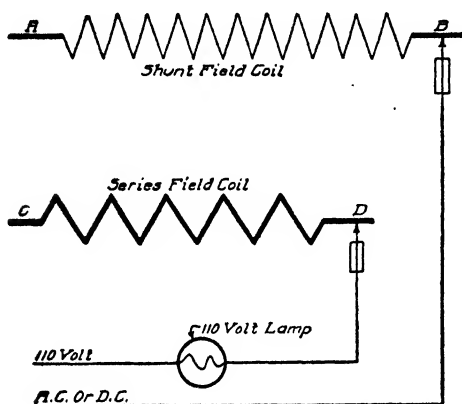
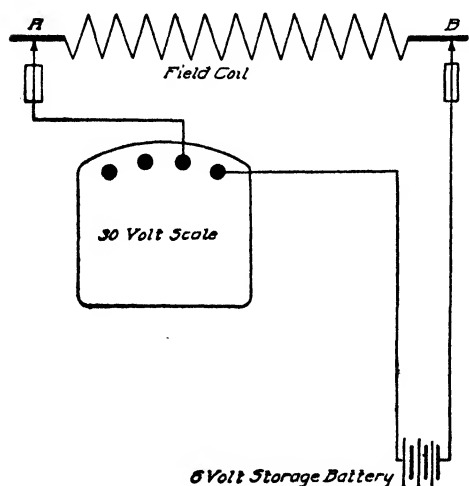

Fig. 271. Diagram for Testing Short-Circuits between Windings
Fig. 272. Voltmeter Test Diagram for Open-Circuited Field
**Short-Circuits between Windings.** To test for short-circuits between windings not normally connected, as for example the shunt and series winding of a field coil, place one test point on the terminal of one winding and the other test point on the terminal of the other field winding, as shown in Fig. 271. If the lamp lights, it will indicate a short-circuit between the windings. The field coils can also be tested with a voltmeter, the 30-volt scale being used in connection with a 6-volt storage battery for this purpose, Fig. 272. Detailed instructions for the use of the instrument are given in a previous section. As
The method of employing the voltmeter for making field tests, shown in Figs. 272 and 273, is as follows:
To test for an open-circuited field, connect up as shown in Fig. 272. The positive terminal of the voltmeter is connected to the positive terminal of the battery. An insulated copper wire of convenient length, with the insulation
naturally be much less. In other words, the value of the voltmeter reading will always depend upon the amount of resistance offered by the coil or other circuit that is being tested. When there is no circuit, as with the free ends held apart in the hands, there will be no indication on the voltmeter scale. An open-circuited coil will accordingly be indicated by a zero reading of the voltmeter when the two free ends, or points, are placed upon the terminals of the coil, Fig. 272. If, on the other hand, the voltmeter reading is nearly half of that of the battery voltage, the coil is in good condition. This test corresponds to that with the lamp-testing set using the 110-volt
at G in Fig. 272, no current can reach the motor. Failing to locate any short-circuit or ground in the system, open the name-plate cover